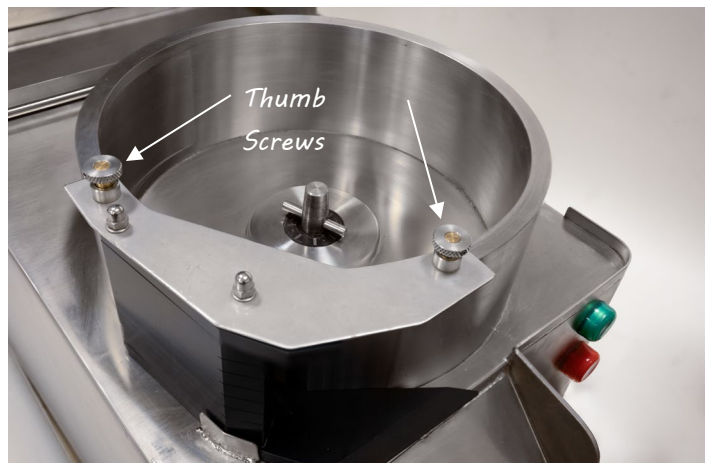

Figure 5
2. Tighten the Thumb Screws. Rocking them may help to seat them. Be careful not to cross thread (*Figure 5*).
2. Carefully remove the Blade Cartridge Assembly by loosening the two (2) Thumb Screws located on top of the Cartridge (*Figure 5 on page 6*). Set aside for cleaning.